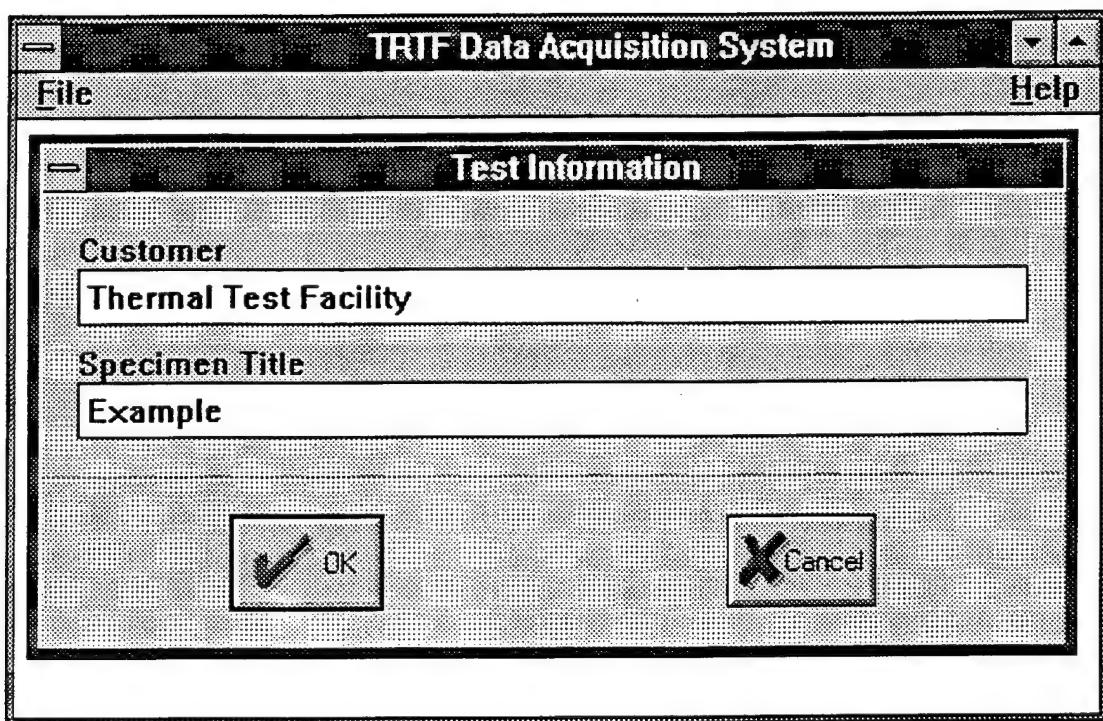

Figure 3-3. Test Information.
2. Position cursor to File in upper left corner of screen and execute single click. Position cursor on NEW and execute single click. Figure 3-3 will appear.